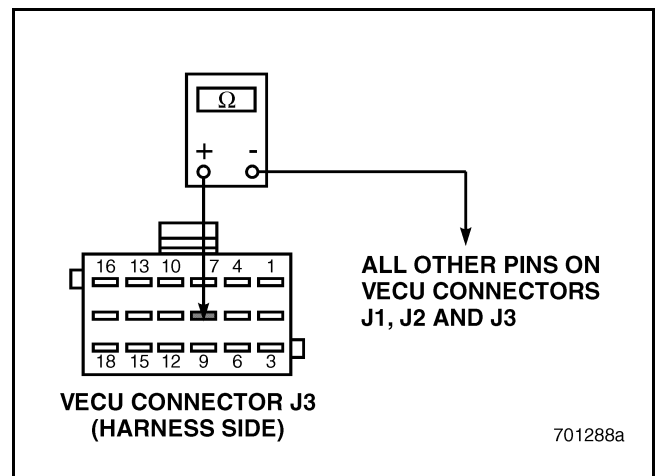

Figure 574
4. Check for continuity between VECU connector J3 pin 8 and all other pins on VECU connectors J1, J2 and J3 (see Figure 574).